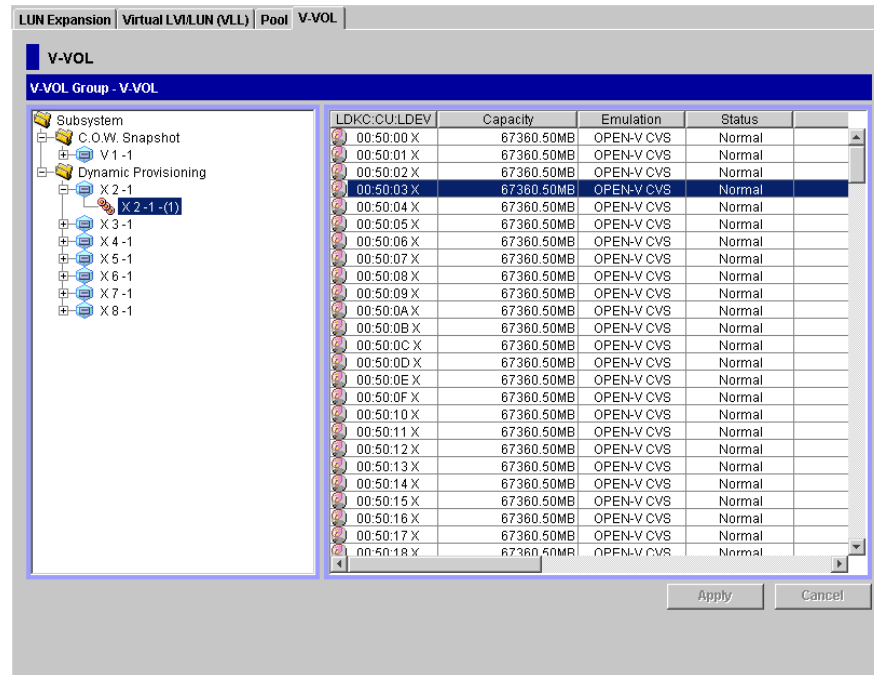

Figure 5-6 Selecting the V-VOL Group
1. Access the **V-VOL** window (see Figure 5-6) by selecting **Go → LUN Expansion/VLL → V-VOL**.
8. Access the V-VOL window by selecting **Go** → **LUN Expansion/VLL** → **V-VOL** (see Figure 5-6).
1. Access the **V-VOL** window by selecting **Go** → **LUN Expansion/VLL** → **V-VOL** (see Figure 5-6).